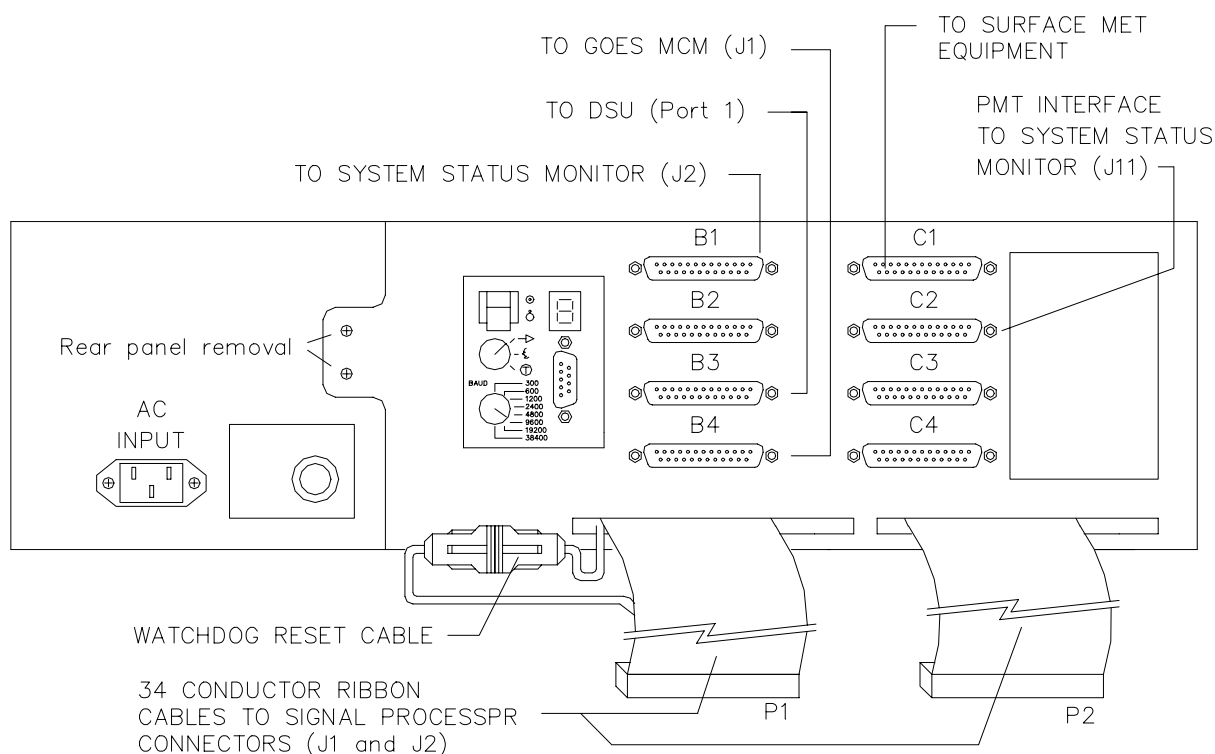

Figure 4-14 Data Processor Rear Panel and Cable Connections
6. Verify that each RS-232 cable designation is clearly marked as referenced in Figure 4-14. If a designation is absent, note the point of connection between the cable and the Data Processor.
2. Remove the two screws labeled "Rear Panel Removal" (as shown in Figure 4-14) and remove the back panel of the Data Processor by swinging the panel outward to disengage the hinge on the right side. Lay the rear panel flat to expose the
9. Reconnect cables B1, B3, B4, C1, and C2 to their respective connectors (see Figure 4-14) and ensure that the retaining screws on both sides of the connectors are tightened properly.
4. Reinstall the rear panel in the Data Processor by engaging the hinge on the right side of the panel and rotating it inward. Replace the screws at the point marked "Rear Panel Removal" (see Figure 4-14).
6. Contact the Profiler Control Center at (303) 497-6033 to verify that the 8-Line RS-232 Interface Card replacement has been successfully accomplished.
2. Reinstall the rear panel in the Data Processor by engaging the hinge on the right side of the panel and rotating it inward. Replace the screws at the point marked "Rear Panel Removal" (see Figure 4-14).